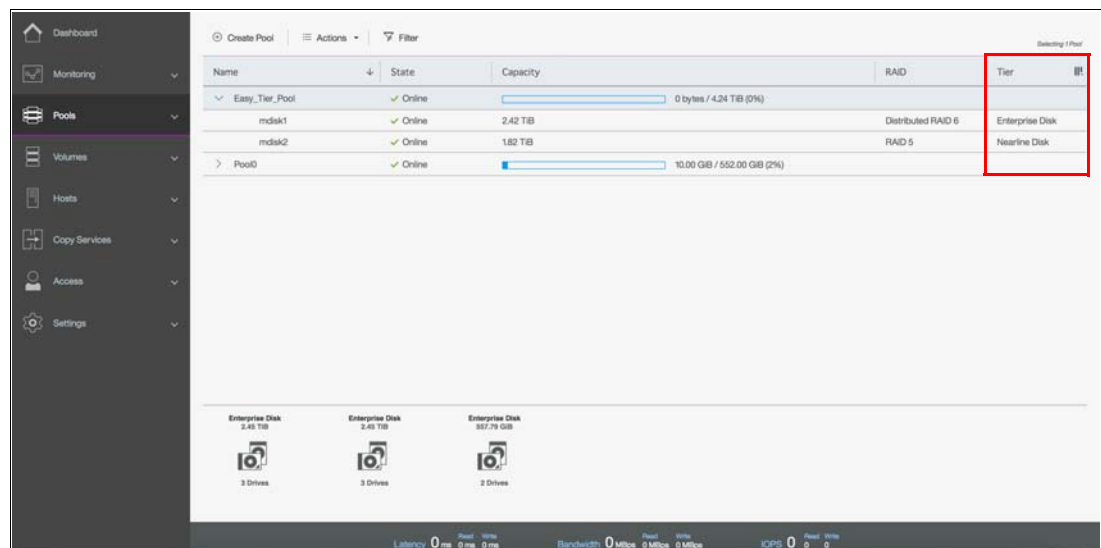

Figure 9-18 MDisks by Pools panel
12. Navigate to **Pools** → **MDisks by Pools** to see the MDisks that were created within the pool with two different drive classes. The tier information is not a default column in the MDisks by Pools panel. To access the tier information right-click the gray header and select **Tier**. Each MDisk will display its tier class as shown in Figure 9-18.